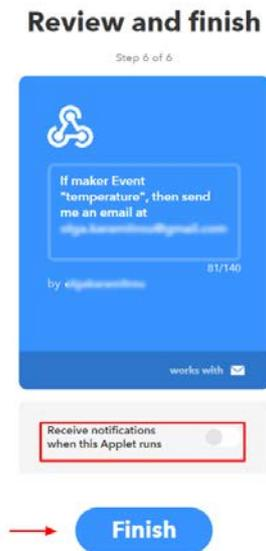

Figure 83: Make an IFTTT applet, Finish
11. The IFTTT applet has been created. Enable the switch to receive notifications and click 'Finish' button on the 'Review and finish' screen (Figure 83). To receive events for all the supported event names (temperature, humidity, pressure, and button), please repeat the above procedures and add as many applets as the supported events names.